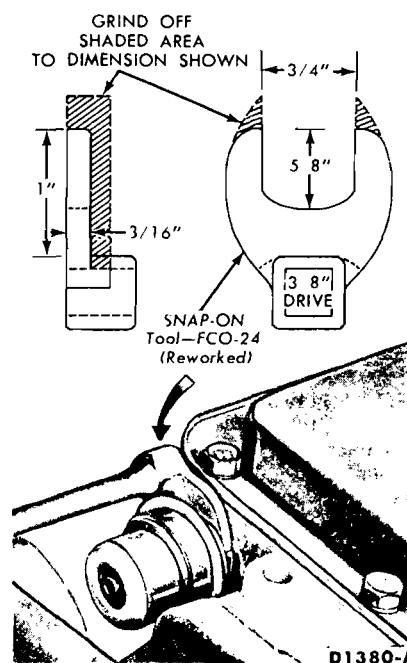

FIG. 35—Removing Vacuum Unit
2. Remove the transmission vacuum unit with the tool shown in Fig. 35. Remove the vacuum unit gasket and control rod.